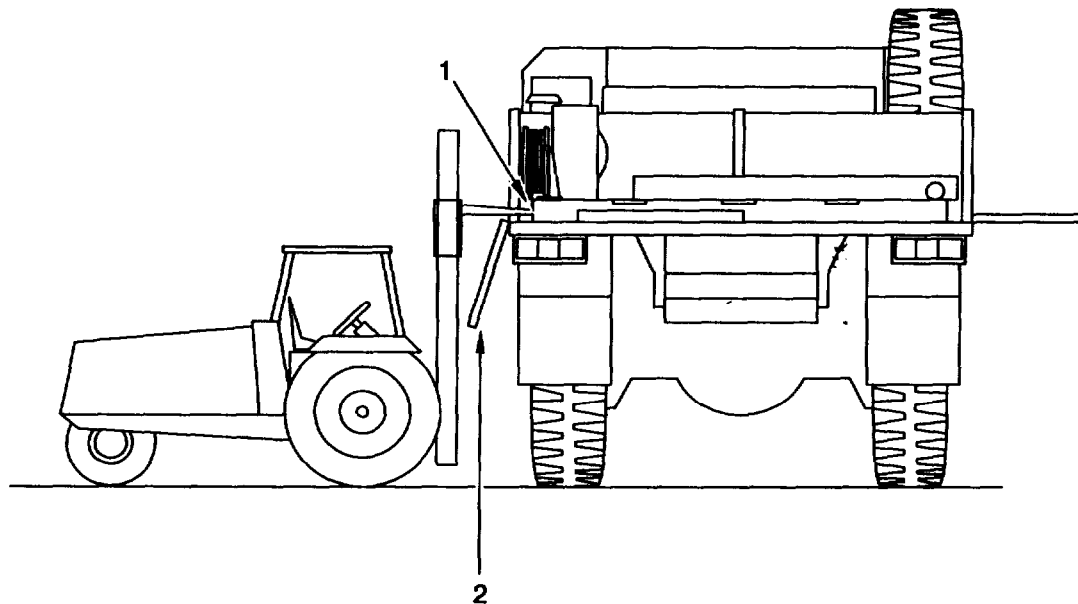

Figure 4-26 Removing the Pallet Frame from the Truck Bed using a Forklift.
- b. Fold down truck side panel (2, figure 4-26). Leave the other side panels in the horizontal position.
- c. Position the forklift in front of the pallet frame and insert the forks into the forklift sockets (1) until a 20 inches (500 mm) length of the forks is still visible.
- a. Remove sling assembly (14, figure 4-26) from pallet frame. Suspend sling assembly from crane. Position crane approximately centered over the three lifting lugs (16) of the pallet frame.
- b. Engage the three cables of the sling assembly in the three lifting lugs (16).